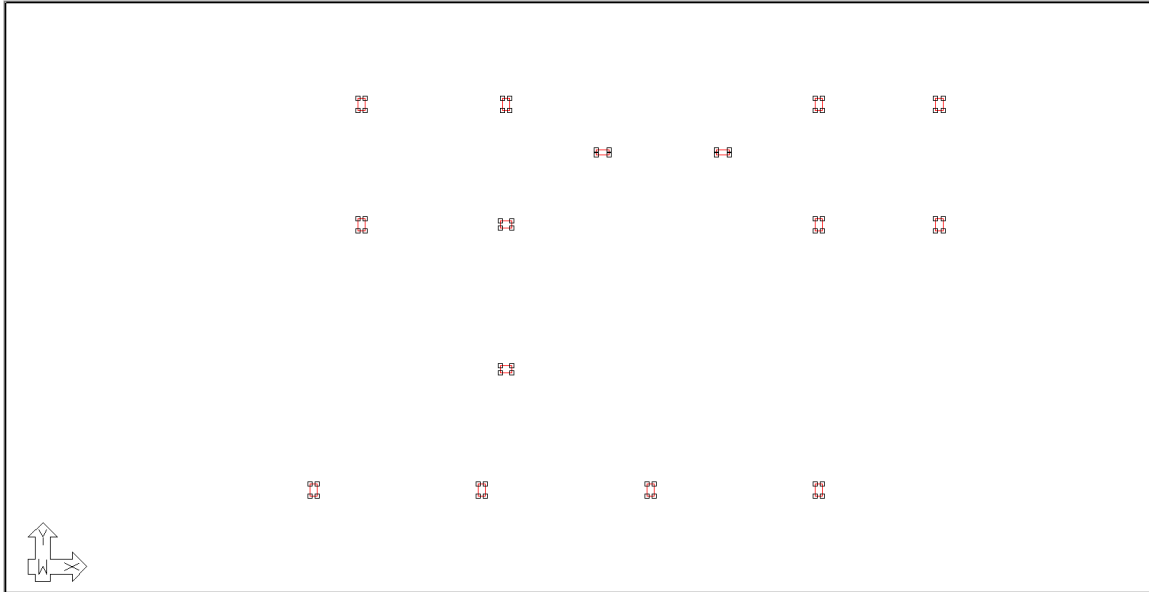

FIGURE 3-14
- Left click and hold the left click of your mouse in the upper left white space and drag your mouse to the lower right so that the selection icon encompasses all the column CAD entities. Release the left button of the mouse to select all the column CAD entities, all columns should now be selected as shown in **FIGURE 3-14**.